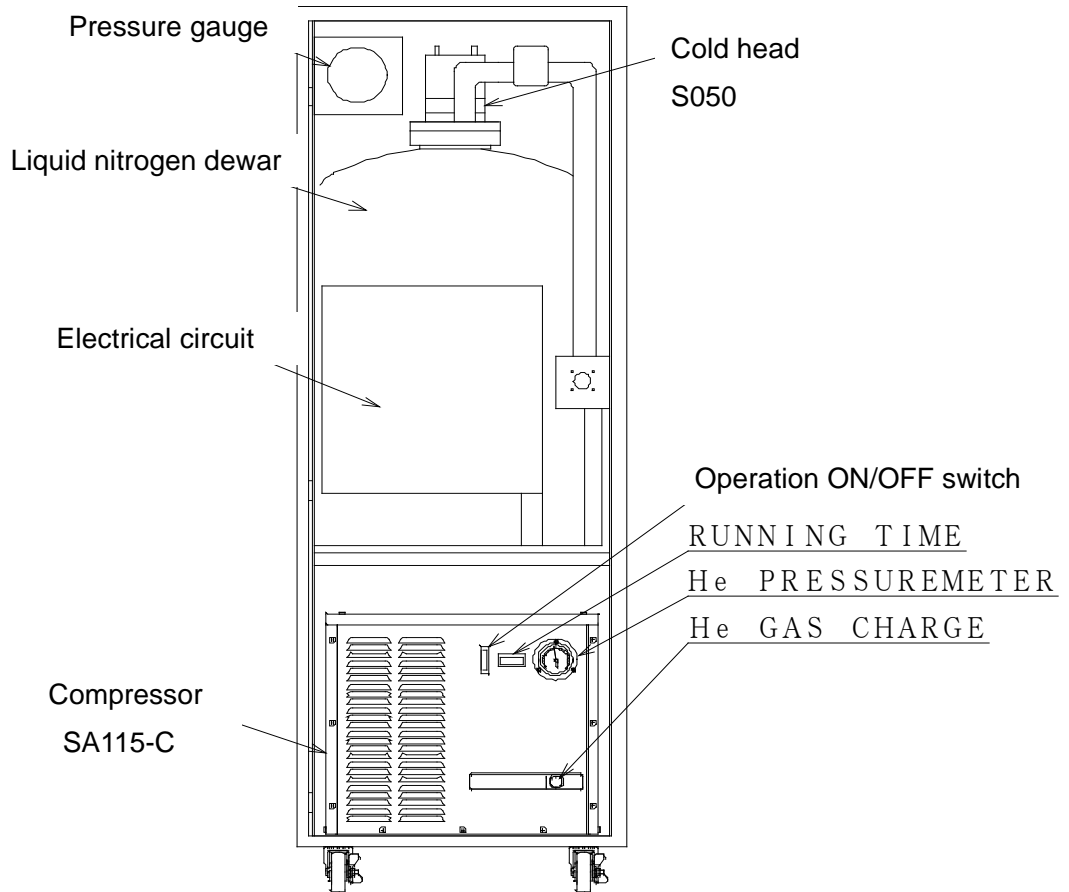

Figure 2-3 Inside of EMP-14A front door and lower panel
2.3 Inside of EMP-14A front door and lower panel (Figure 2-3)